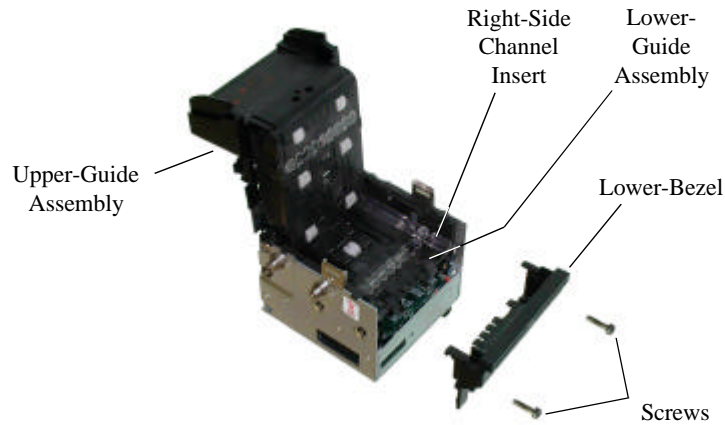

Figure 8. ARGUS-D Validator Head – Lower-Bezel Disassembly
1. Open the Currency Validator by simultaneously releasing the spring-loaded latches and swinging out the Upper-Guide Assembly, exposing the currency channel with its optical system and magnetic head (**Figure 8**).